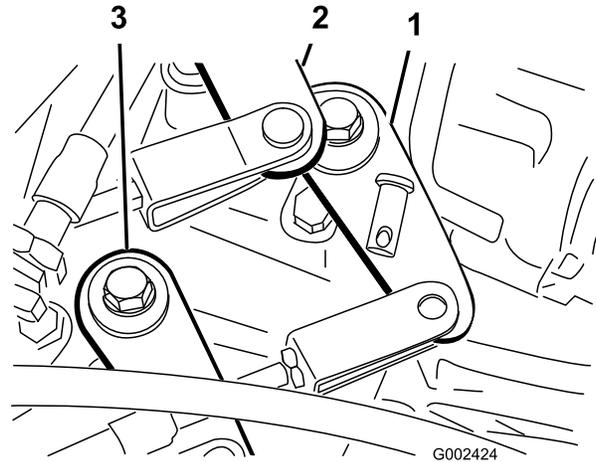

Figure 54
2. Remove the clevis pins securing the shift cables to the transaxle-shift arms (Figure 54).
1. Remove the clevis pin securing the High–Low cable to the transaxle (Figure 54).